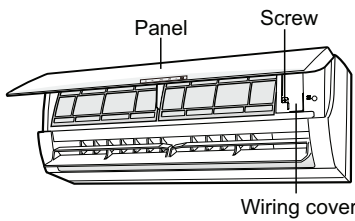

Fig. 11
- (1) Open the panel, remove the screw on the wiring cover and then take down the cover. (As show in Fig.11)